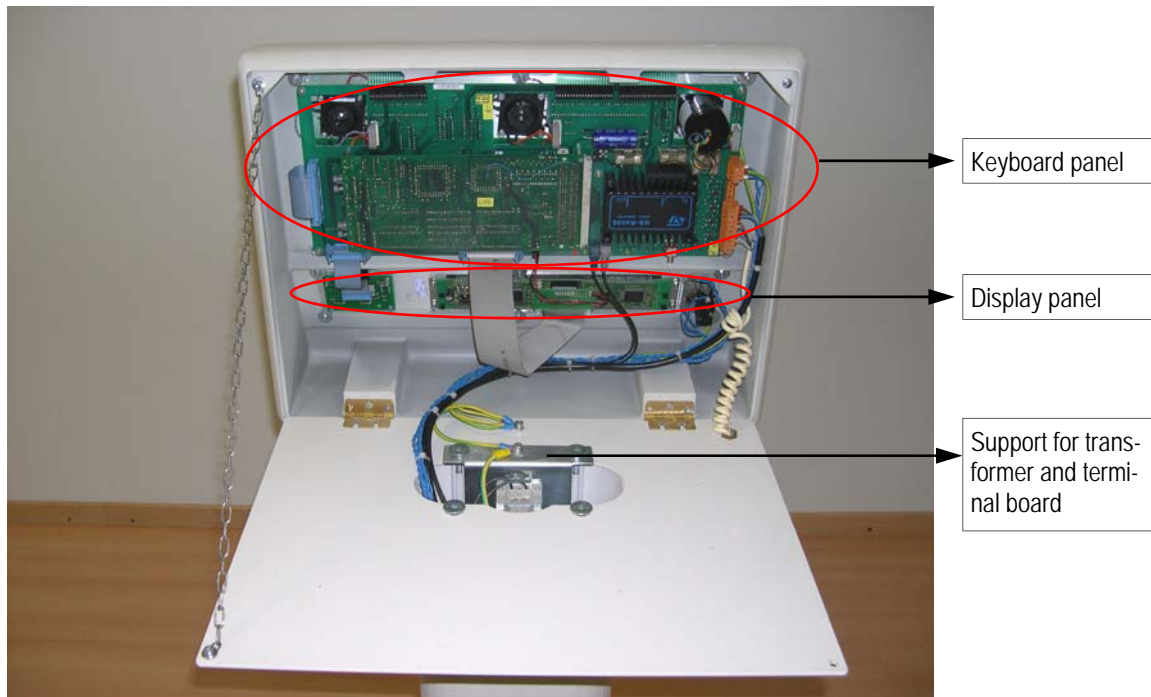

fig.8.2: internal of the upper casing
- 3.2. Upper casing with two slots to house the keyboard and the display panel (see fig.8.2).